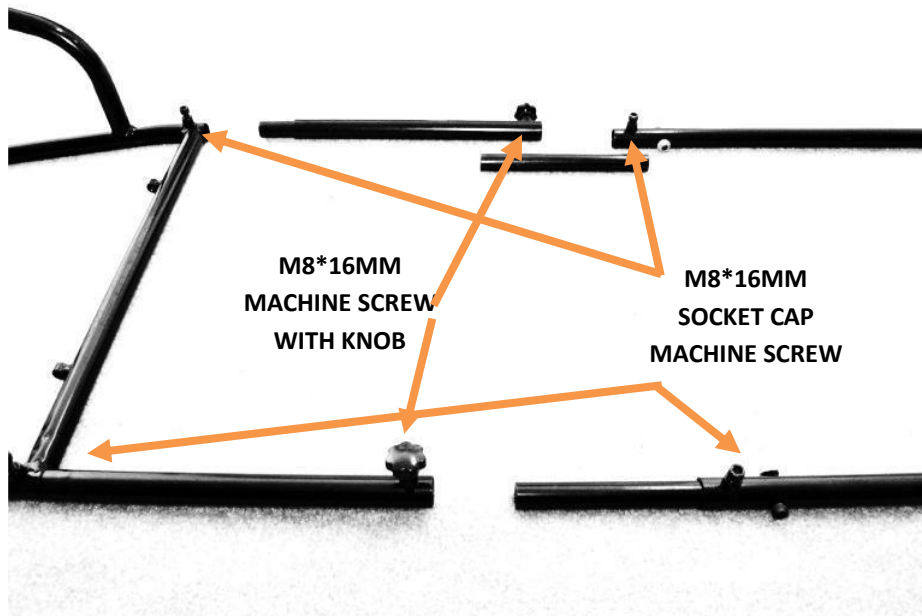

FIGURE 1: ATTACHING MONITOR BASE TO SEAT BASE
Begin assembly by attaching the monitor base to the seat base using the adjustment tubular connectors as shown in **FIGURE 1** below. The inner adjustment tubes allow you to vary the distance between the seat base and the monitor base. Use four (4) M8*16mm Socket Cap Machine Screws (No. 3) and two (2) M8x16mm Machine Screws with Knob (No. 5). You can adjust the optimum seat distance later.